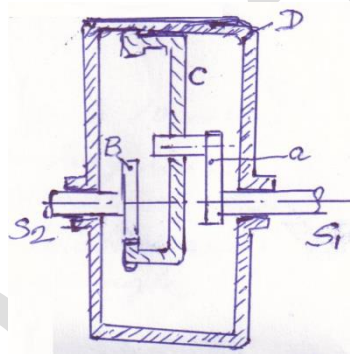

Figure 4
5. In the epicyclic gear shown in figure 4, a gear C has internal as well external teeth. It is free to rotate on an arm driven by shaft S_1 . It meshes externally with the casing D and internally with the pinion B. If $T_B = 24$, $T_C = 32$ and 40 and $T_D = 48$, find the velocity ratio between (i) S_1 and S_2 when D is fixed and (ii) S_1 and D, when S_2 is fixed. [20]